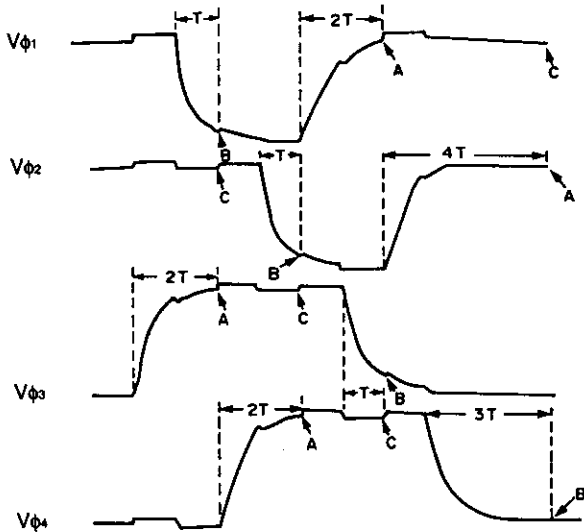

Fig. 6 Vertical transfer clock waveform
**2. Vertical clock voltage (Refer to Fig. 6)**